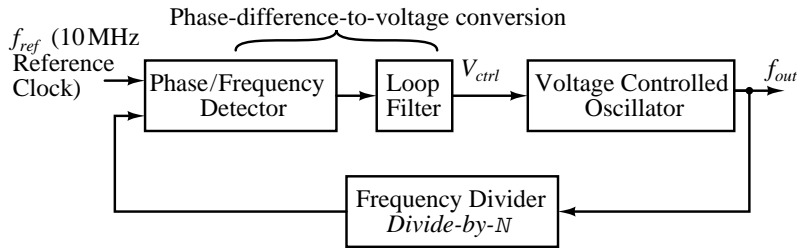

Figure 4: The block diagram of a PLL used as a frequency synthesizer.
- b. **The Phase Locked Loop (PLL) for Frequency Synthesis:** The main function of the PLL on this board is to generate the LO signal for modulation or upconversion of the baseband signals. The input to the PLL is a fixed 10 MHz clock signal (also called the reference frequency  $f_{ref}$ ) coming from an on-board crystal oscillator. The PLL IC has a voltage controlled oscillator (VCO) followed by a configurable frequency divider of division ratio  $N$ , as shown in Fig. 4. The feedback loop in the PLL ensures that the frequency divider output phase (and hence frequency) exactly matches the reference clock phase (and frequency). The phase error is basically determined by the time difference between the rising edges of the reference clock and the frequency divider output, and should be practically zero when the PLL is locked. For a given  $f_{ref}$  and  $N$ , the VCO output frequency in a locked PLL is  $f_{out} = N f_{ref}$  (prove it yourself). The frequency division factor  $N$  is always  $> 1$ , but it is possible to achieve effectively a non-integer value of  $N$  using some tricks (discussion on these tricks is beyond the scope of this material).